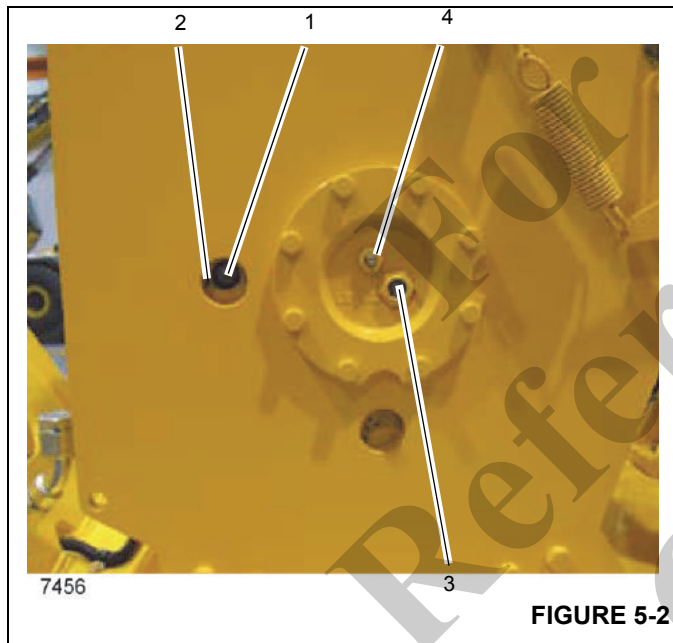

FIGURE 5-2
NOTE: Failure to align the fill/drain plug (1) with the upper access hole (2) as shown in (Figure 5-2) prior to checking the oil level will result in an inaccurate reading.
1. Rotate the hoist drum until the fill/drain plug (1) appears in the upper access hole (2) shown in (Figure 5-2).